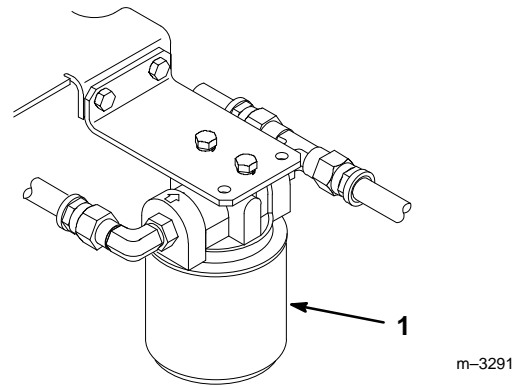

Figure 43
3. Place drain pan under filter, remove the old filter and wipe the filter adapter gasket surface clean (Fig. 43).